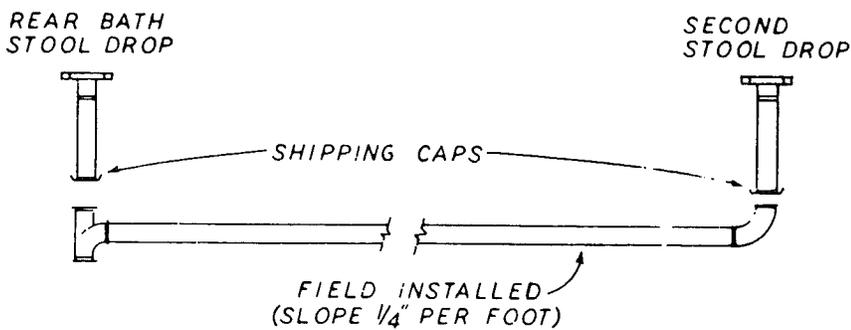

FIG. 4
1. Remove caps on drain outlets and connect supplied parts together as shown by fig. 4 (Do not apply cement).